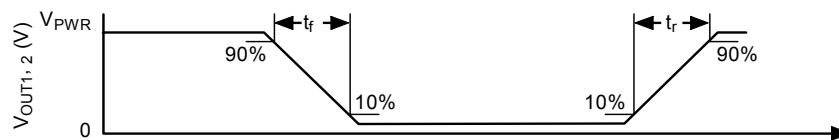

Figure 4. Output Switching Time
26. Rise Time is from the 10% to the 90% level and Fall Time is from the 90% to the 10% level of the output signal. See Figure 4, page 11.